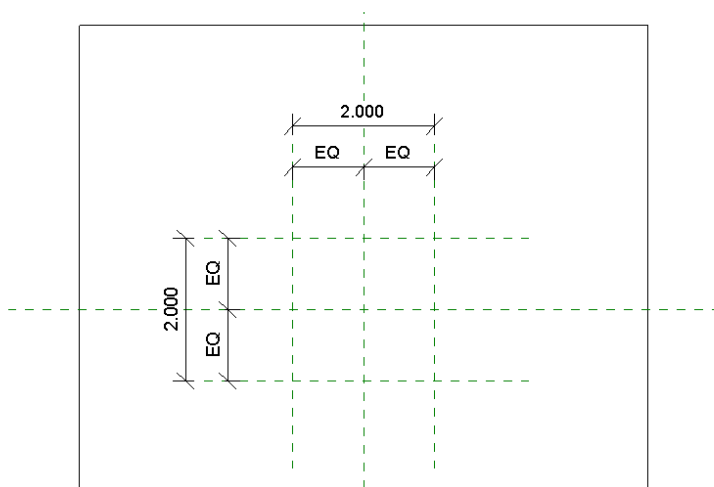

Figure 3—Add dimensions
1. Using the Aligned Dimension tool (DI), click the first witness line on the Reference Plane Left, then Center (Left/Right) and then Right.
4. Repeat both dimensions in the vertical direction as well (see Figure 3).